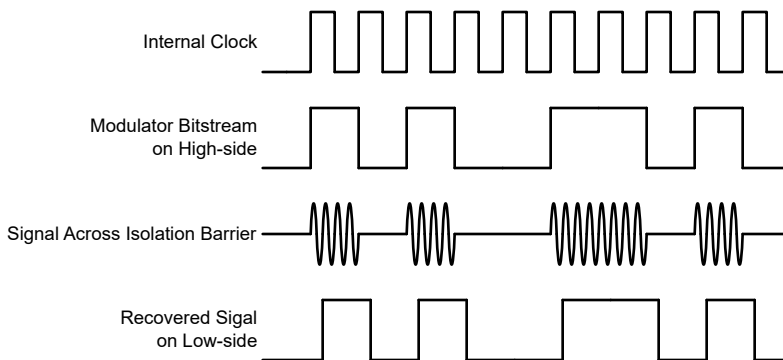

Figure 7-4. OOK-Based Modulation Scheme
As shown in Figure 7-4, the AMC0x06M05 uses an on-off keying (OOK) modulation scheme to transmit the modulator output bitstream across the SiO₂-based isolation barrier. The transmit driver (TX) is illustrated in the Functional Block Diagram. TX transmits an internally generated, high-frequency carrier across the isolation barrier to represent a digital one. However, TX does not send a signal to represent a digital zero. The nominal frequency of the carrier used inside the AMC0x06M05 is 480MHz.